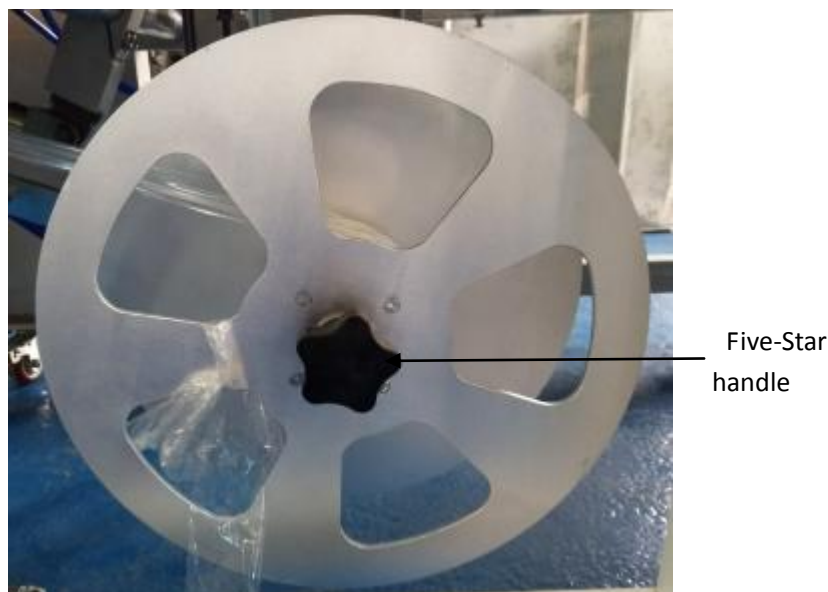

Figure6.7
(1) Loose and remove the nut firstly, and then remove the fixed disk. After removing the all the scraps (waste film), install the disk and lock the nut (see Figure 6.7).
(2) When the winding action is skid, the five-star handle can be tightened, or remove the external fixed disk, fasten the middle of the SOCKET SET SCREWS to increase the friction between the winding disk and the driven part, to eliminate slip.